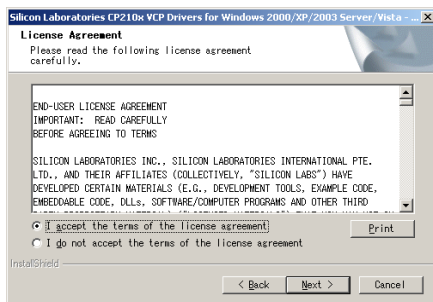

Fig. 11 USB Driver Installation Screen 2
3) Select "I accept ----" in Fig. 11.